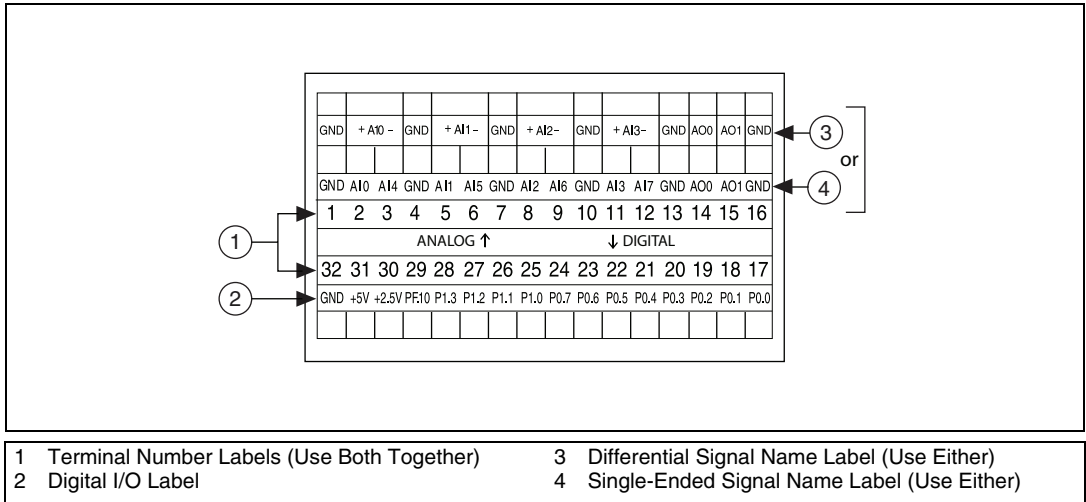

Figure 5. NI USB-6008/6009 Signal Labels
- Figure 5 illustrates the signal labels that ship in the NI USB-6008/6009 kit. You can apply the signal labels to the screw terminal blocks for easy signal identification.
- Refer to Table 4 and Figures 5 and 6 for signal label orientation and affix the provided signal labels to the screw terminal blocks. Until the signal labels are applied, you can insert the screw terminal blocks into either of the combicon jacks.